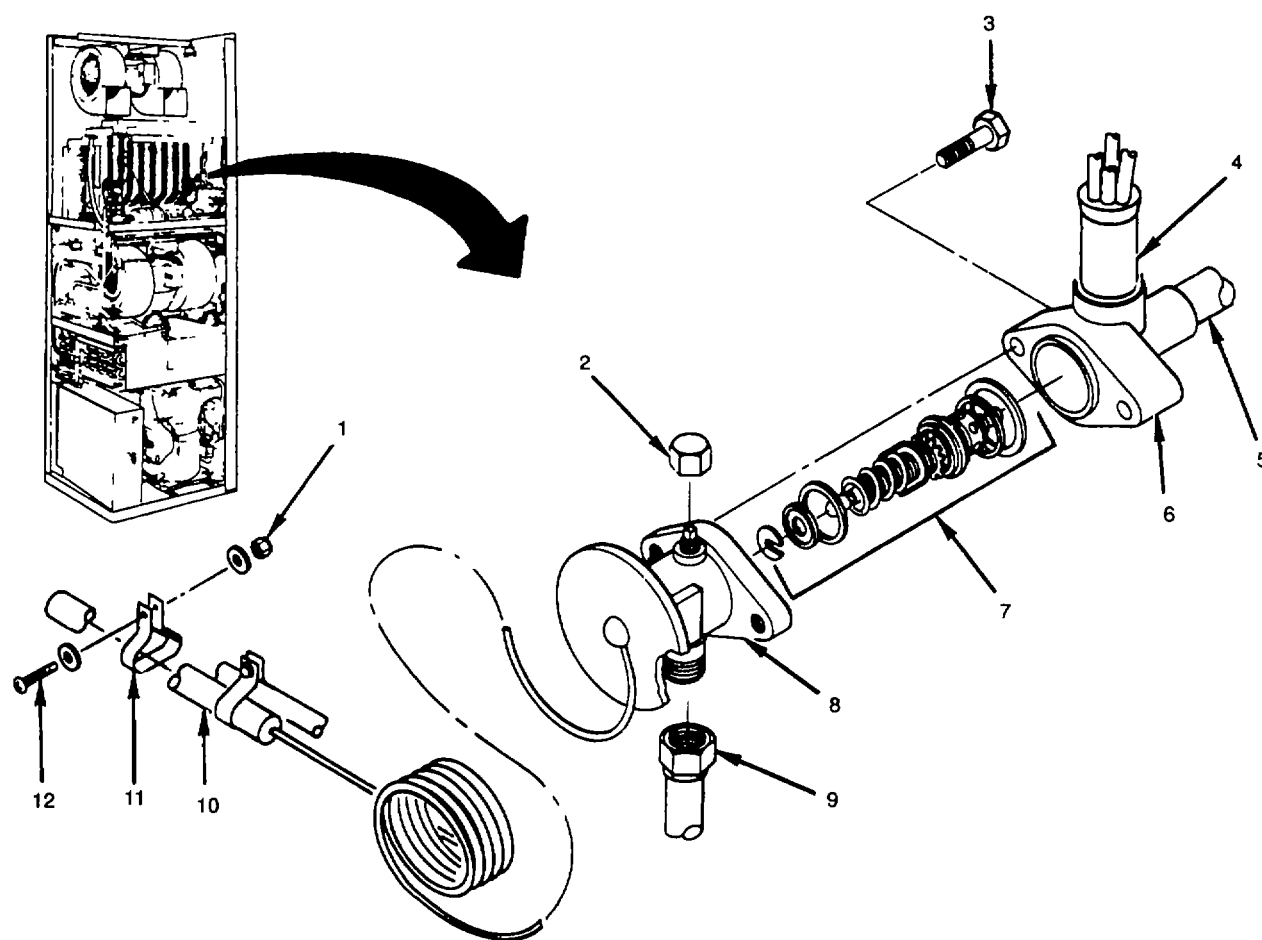

Figure 5-21. Expansion Valve (V5) (Primary)
- a. Inspect for evidence of leaks, damaged capillary line, and loose or missing mounting hardware (see fig. 5-21).